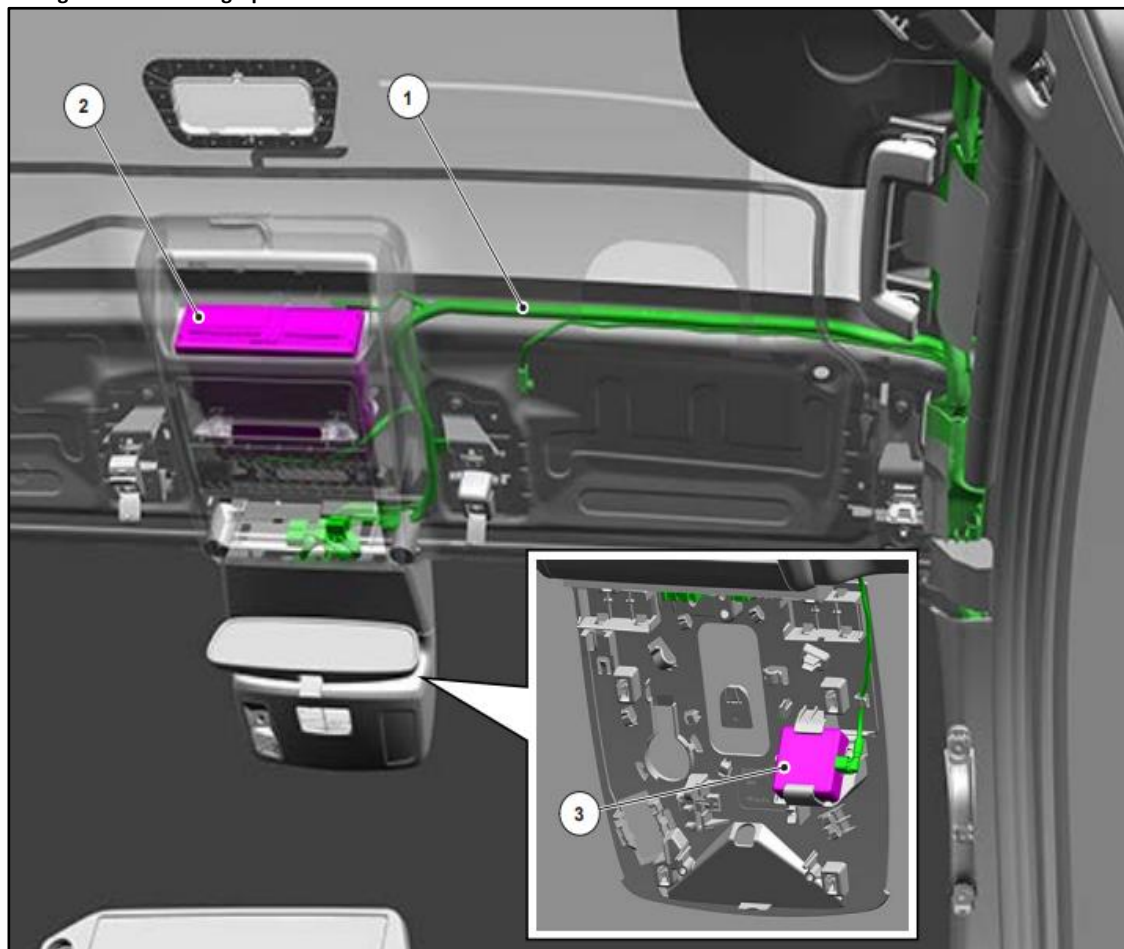

Fig. 2: Wiring harness – tachograph and DSRC
- Wiring harness – tachograph, see Figure 2 in Chapter 4.11.2 for securing and cable guide
- DSRC wiring harness, see Figure 2 in Chapter 4.11.2 for securing and cable guide